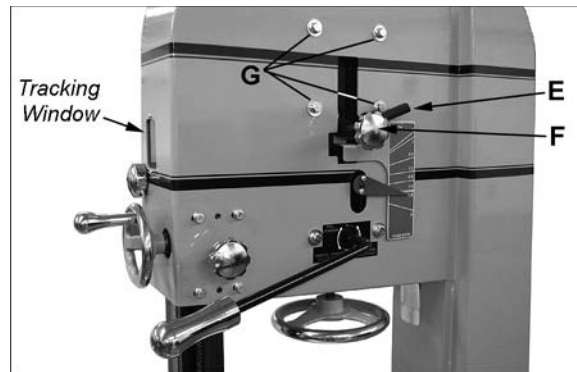

Figure 26
Refer to Figure 26.
4. Set the quick tension lever initially to "Partial Tension-Idle/Tracking" position, as shown in Figure 26.
IMPORTANT: Make tracking adjustments with knob (F, Figure 26) while the blade is at full tension. DO NOT use screws (G, Figure 26); these were used by the manufacturer for wheel alignment and should NOT be used for tracking.
6. If the blade tends to move toward the edge of the wheel, loosen locking lever (E, Figure 26) and slightly rotate tracking knob (F) with your right hand while continuing to rotate the wheel with your left. Observe the blade through the tracking window. Rotating the tracking knob clockwise will cause the blade to move toward the rear edge of the wheel. Rotating the tracking knob counterclockwise will cause the blade to move toward the front edge of the wheel.